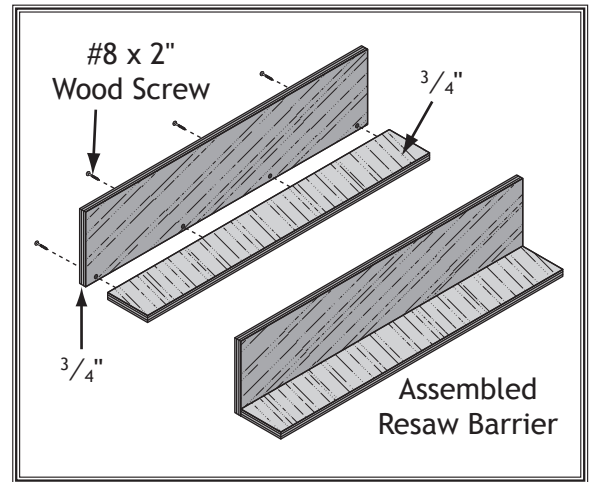

Figure 69. Resaw barrier.
3. Glue the end of the 3" board, then clamp the boards at a 90° angle with the larger board in the vertical position, as shown in **Figure 69**, and fasten them together with the wood screws.